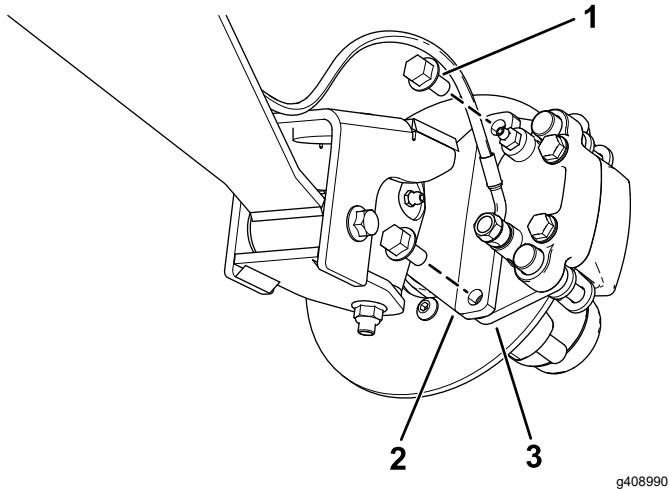
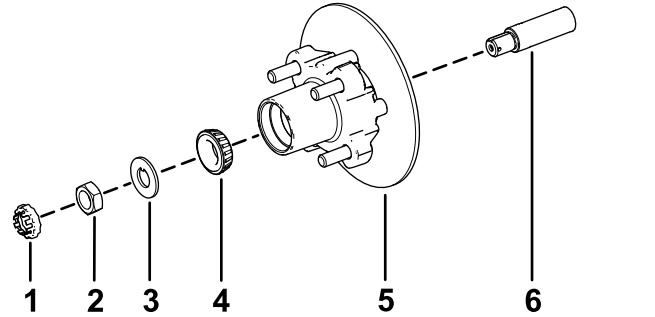

Figure 21
Figure 25
- Remove the flange-head bolts (3/8 x 3/4 inch) that secure the bracket for the brake assembly to the spindle and separate the brake from the spindle (Figure 21).
1. Apply a light coat of the specified grease to the spindle (Figure 25).
2. Assemble the hub and rotor onto the spindle with the rotor inboard (Figure 25).
3. Assemble the outboard bearing onto the spindle and seat the bearing to the outboard race (Figure 25).
4. Assemble the tab washer onto the spindle (Figure 25).
5. Thread the spindle nut onto the spindle and tighten the nut to 15 N·m (11 ft-lb), while rotating the hub to seat the bearing (Figure 25).
2. Align the brake pads to either side of the rotor (Figure 21) and the holes in the caliper bracket with the holes in the brake mount of the spindle frame (Figure 25).
3. Secure the caliper bracket to the spindle frame (Figure 21) using the 2 flange-head bolts (3/8 x 3/4 inch).